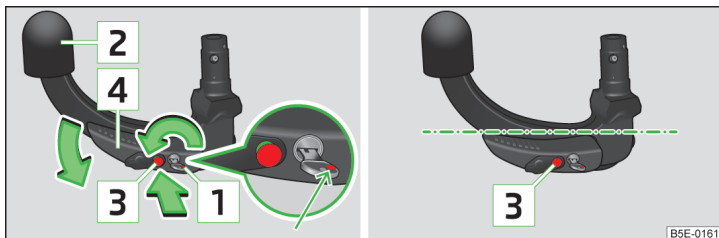

Fig. 154 Setting the ready position/ready position
- › Turn the key **1** so that its red marking is visible » Fig. 154.